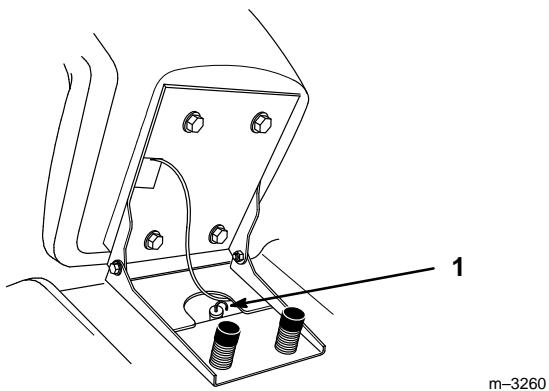

Figure 46
4. Clean around the transmission dipstick (Fig. 46) so dirt cannot fall into the filler hole and damage the transaxle.
5. Pull out the transmission dipstick and wipe the metal end clean (Fig. 46).
6. Slowly pour the specified refill capacity of oil into the filler tube (Fig. 46).